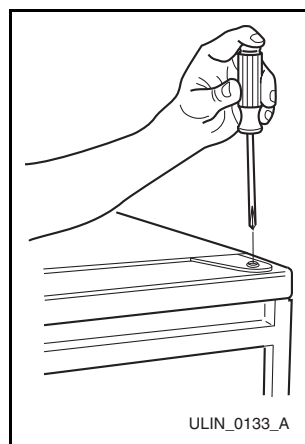

Figure 19
2. Remove the top hinge pivot pin with a Phillips screwdriver (**Figure 19**) and lift door off bottom hinge pin. Be careful not to lose the door closer insert sets.